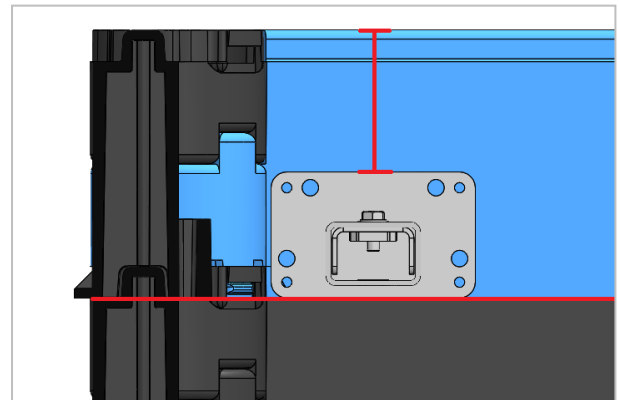

Figure 8
- Place first fixing plate against the chamber wall. Bottom face of plate should line up with the bottom edge of top chamber ring as shown in Figure 8. This method remains the same with all plastic chamber types apart for the Quad box. When using the quad box, utilise the chamber ledge feature to rest the fixing plates on. For concrete chambers locate top face of plate 90-100mm from top of chamber.